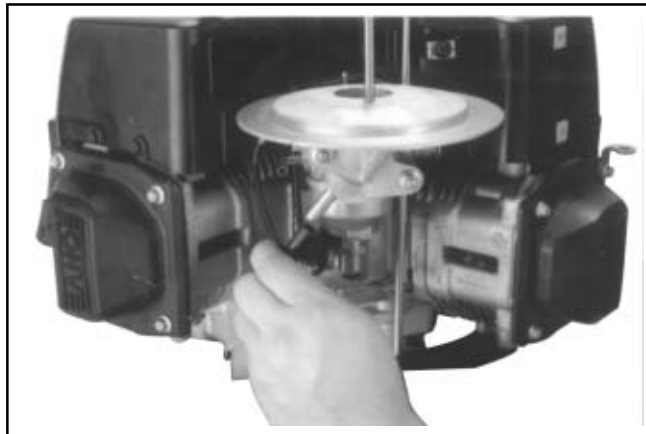

Figure 11-79. Installing Fuel Line (Commercial Mower Shown).
3. Connect the fuel lines. See Figure 11-79.